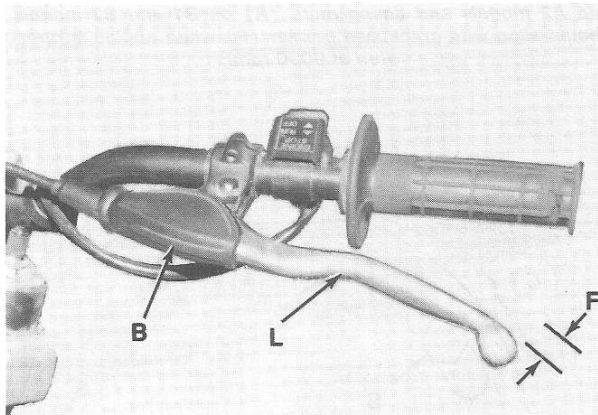

Fig. K10-21—Measure clutch lever (L) free play at (F). Slide dust boot (B) down cable to expose cable adjuster nut and locknut.
The clutch lever should have 2-3 mm (0.079-0.118 in.) of free play measured at clutch lever (L—Fig. K10-21) end as shown at (F). Clutch lever free play can be adjusted by sliding dust boot (B) down cable to expose adjuster nut and locknut. Loosen locknut and rotate adjuster nut until 2-3 mm (0.079-0.118 in.) free play is obtained. If adjuster nut is near or has reached adjustment limit, then loosen locknut (N—Fig. K10-22) and rotate adjuster nut (A) to add or remove cable slack as needed. Secure adjuster nut (A) setting with locknut (N). Complete adjustment at clutch lever adjuster nut and tighten locknut. Reinstall dust boot (B).